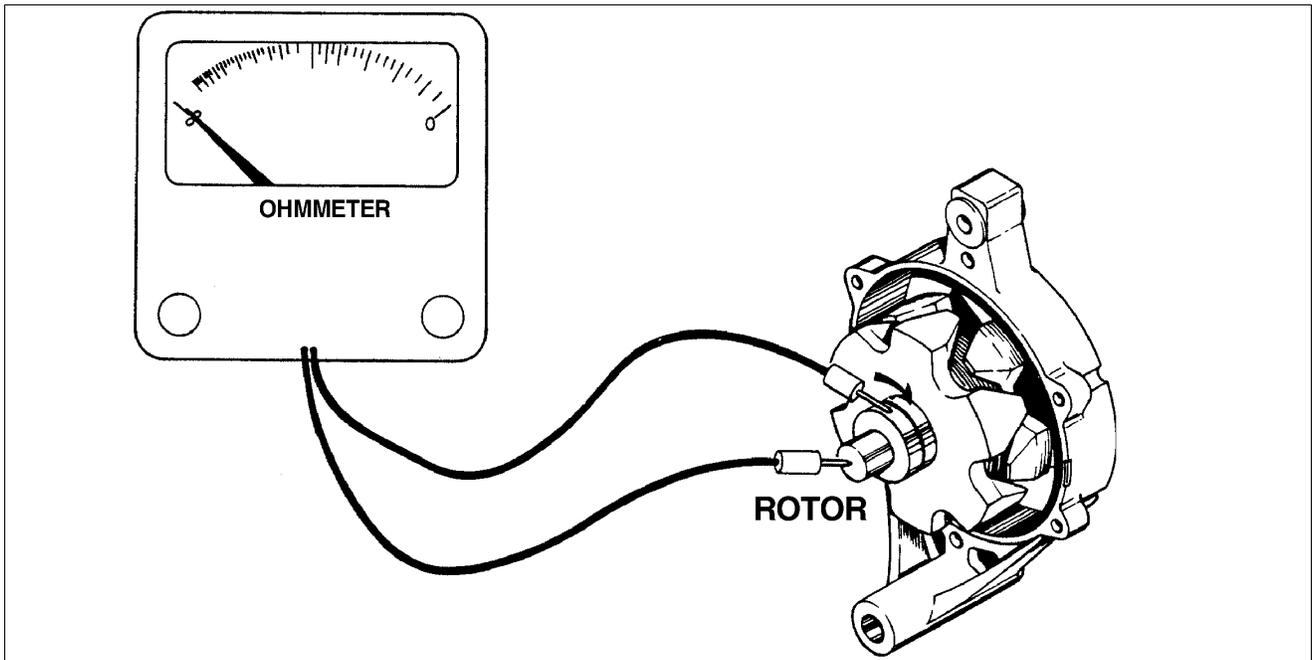
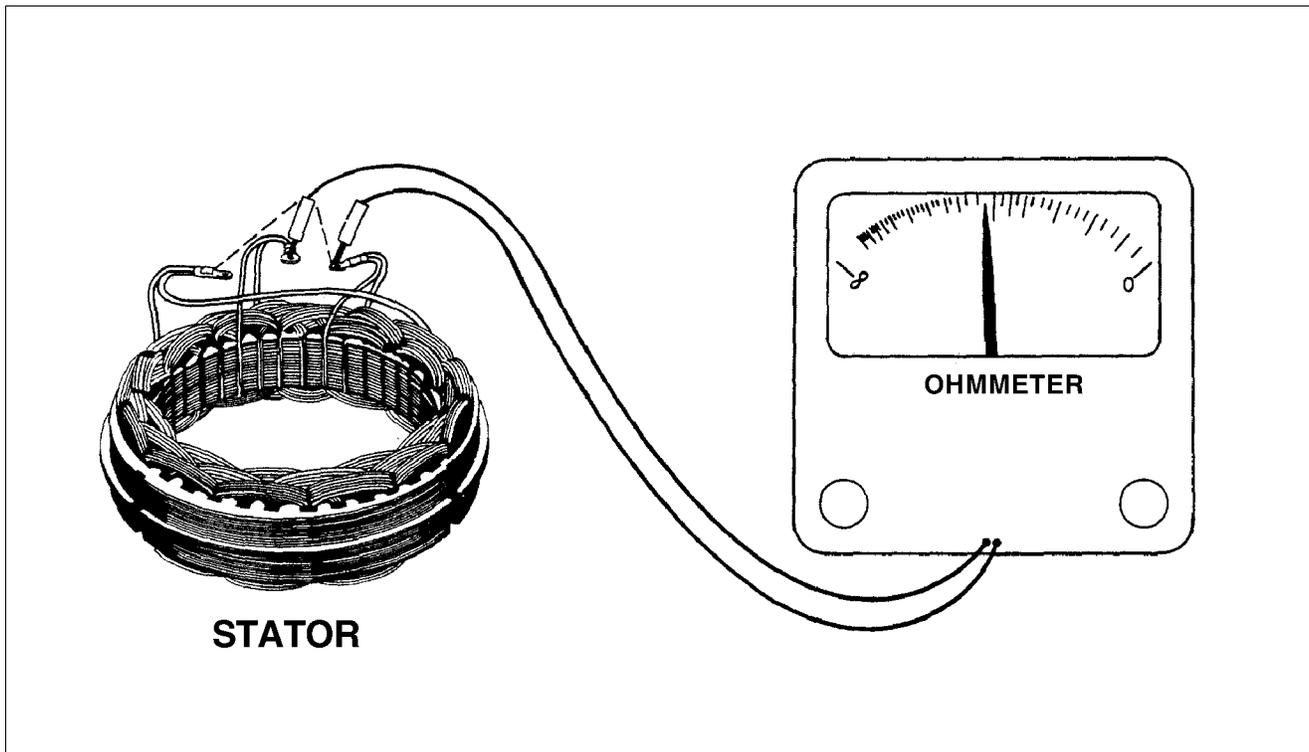

Figure 24-14. Rotor Ground Test
Figure 24-15. Stator Continuity Test
- d. Rotor Ground Test (Refer to Figure 24-14.)
- (1) Set the ohmmeter selector switch on 1000 scale and zero the meter.
- (2) Touch one lead to the rotor shaft and the other lead to first slip ring then to the other. The ohmmeter should read infinity (no needle movement) in both checks.
- (3) If the meter shows a reading (needle moves) a short to ground exists. Check the soldered connections at the slip rings to make sure they are secure and grounding against the rotor shaft, or that excess solder is not grounding the rotor coil.
- (4) Replace the rotor if repairs cannot be made.
- e. Stator Continuity Test (Refer to Figure 24-15)
- (1) Using a 100 watt soldering iron, disconnect the three stator wires from diode assembly, and remove stator from rear housing.
- (2) Set the ohmmeter selector switch on resistance scale 1 and zero the meter.
- (3) Connect ohmmeter leads alternately between all three sets of leads. Meter readings should be equal between any pair of stator leads.
- (4) If unequal readings are obtained, the stator winding is open. Check wiring junction. If breaks are found repair and recheck. If unequal readings still exist, replace the stator.